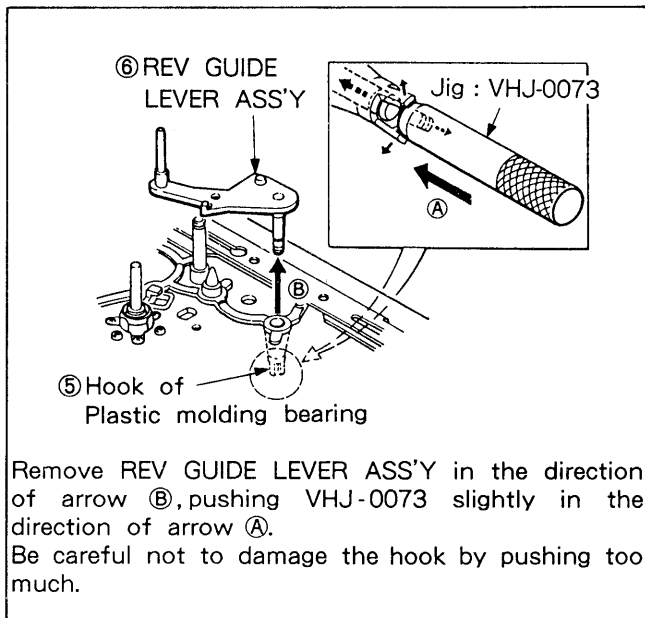

Fig. 5-6-2 Method of Using the Jig VHJ-0073
- 3) Remove the PINCH SPRING COIL ①.
- 4) Remove the special washer ②, then remove the PINCH LEVER ASS'Y ③.
- 5) Remove the REV GUIDE LEVER SPRING COIL ④.
- 6) Remove the REV GUIDE LEVER ASS'Y ⑥ from the hook ⑤ of the plastic molding bearing on the bottom side. Use a jig VHJ-0073 shown in Fig. 5-6-2 to widen the hook ⑤ of the plastic molding bearing. By so doing, the above removal of the REV GUIDE LEVER ASS'Y ⑥ can be made more easily. Care should be taken to avoid pushing the jig VHJ-0073 too much. Pushing it too hard may damage the hook in an extreme case.
- 7) Remove the LINK LOCK SPRING COIL ⑦.
- 8) Remove the special washer ⑧, then remove the PINCH CAM LEVER ASS'Y ⑨.
- 9) Remove the ACT PINCH SLIDE ASS'Y ⑩.